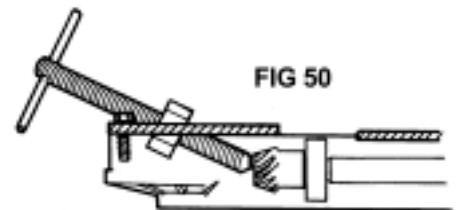

FIG 50
5. If service tool available, remove shaft after fixing to main casing with existing screws and screwing out (Fig 50).